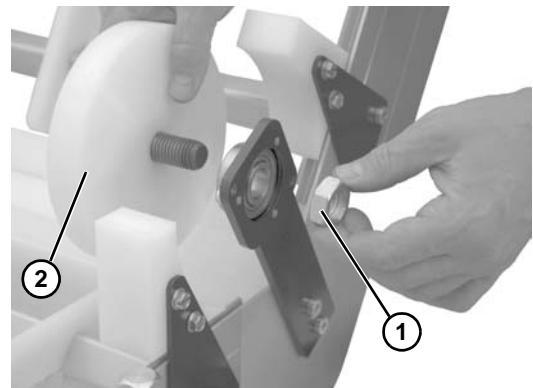

Figure 83
4. Remove the hex jam nut (**Figure 83, item 1**) and the hold down roller (**Figure 83, item 2**). Repeat on opposite side.